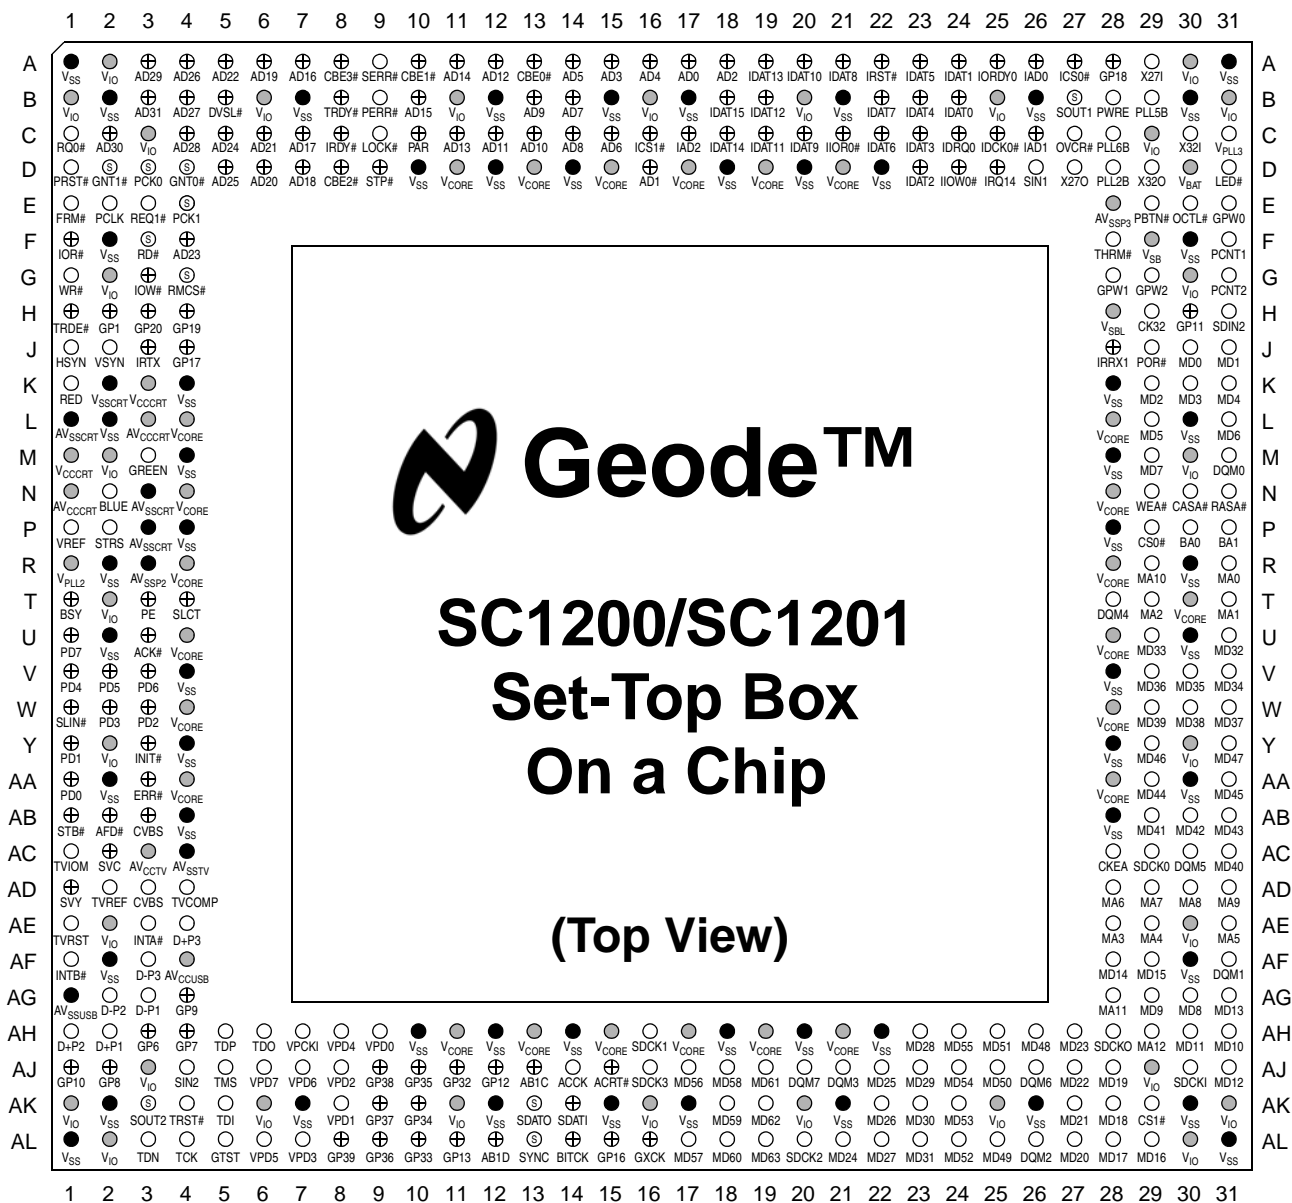

Figure 2-2. 432-EBGA Ball Assignment Diagram
- Figure 2-2 on page 22 and Figure 2-3 on page 38: Illustrations of EBGA and TEPBGA ball assignments.